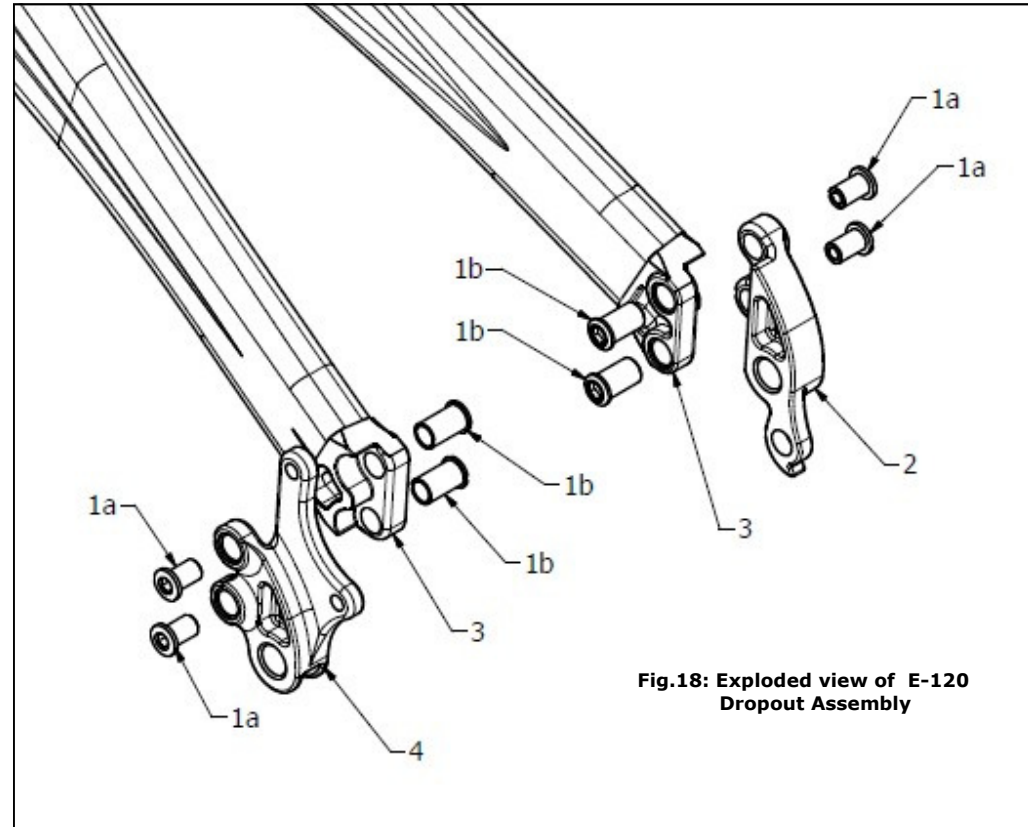

Fig.18: Exploded view of E-120 Dropout Assembly
Reference figure 18. Both Left (4) and Right Hand (2) dropouts are a modular design, that can be replaced if damaged. They are each attached to the Swinging Arm (3) by two bolts (1a & 1b) . To remove either Right Hand (2) or Left Hand (4) dropout apply heat to the assembly - to reduce the Loctite strength - then using the 5mm Allen key for the outside bolts (1a) and 6mm Allen key for the Inside Bolts (1b), undo both bolts and remove them from the assembly. The Dropout (2 & 4) should now be detached from the Swinging Arm (3). Take care not to loose any of the components & also handle hot parts with care.
Reference figure 18. It is important to make sure the Swinging Arm (3) and Dropouts (2 & 4) are clean and free from mud, grease and other dirt, which could prevent the Dropouts (2 & 4) and Swinging Arm (3) from fitting together perfectly. Before assembling the bolts (1a & 1b), apply a small amount of Loctite 638 retaining compound to the threads of each of the bolts (1a & 1b), as well as to the outside of the Female Chain Ring Bolts (1b) so an even covering is achieved. Next, assemble the parts as shown in Fig 17. making sure the Bolts (1a & 1b) are correctly positioned as shown. Using the Torque Wrench, tighten the bolts (1a & 1b) to the correct torque as specified in Section 8.0. Wipe off any excess retaining compound.
Reference figure 19. It is important to make sure the Swinging Arm (4) and Dropouts (2 & 3) are clean and free from mud, grease and other dirt, which could prevent the Dropouts (2 & 3) and Swinging Arm (3) from fitting together perfectly. Before assembling the screws (1), apply a small amount of Loctite 638 retaining compound to the threads of the screws (1) and Swinging Arm (3). Next, assemble the parts as shown in Fig 18. making sure the screws (1) are correctly positioned as shown. Using the Torque Wrench, tighten the screws (1) to the correct torque as specified in Section 8.0. Wipe off any excess retaining compound.